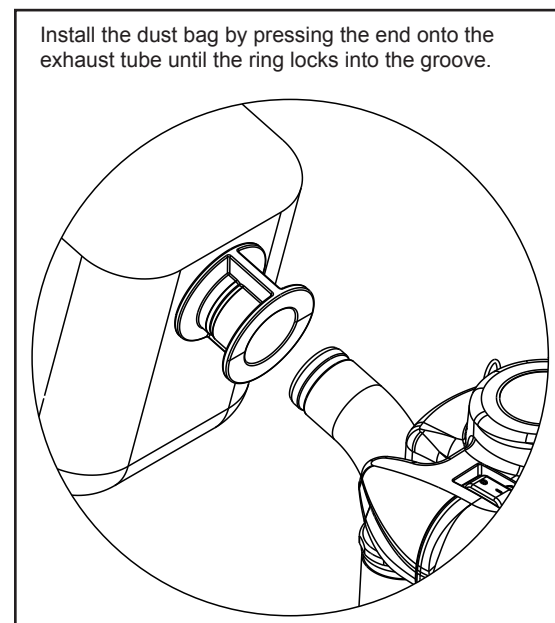

Figure 3.2
1. Install the dust bag by pressing the end onto the exhaust tube until the ring locks into the groove (figure 3.2). This is best done by pressing on the back of the bag opening with the palm of your hand.